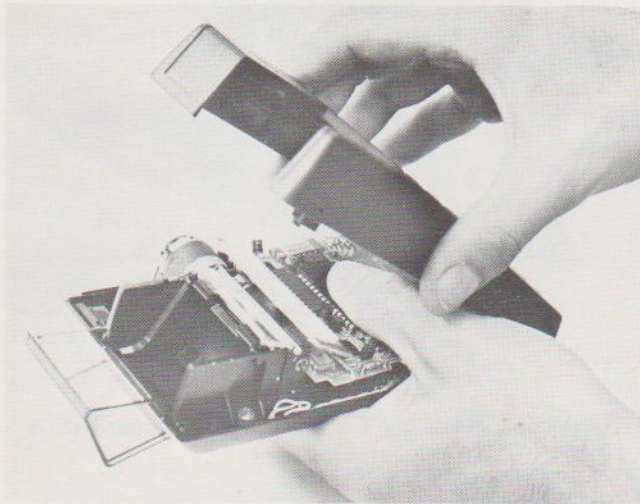

Figure 3-6. Securing Logic PCA to Printer PCA
- d. Engage the lip on the inside-bottom of the topcase, in the catch on the inside-bottom of the bottom case. With your thumb, press down on the PIK until the connector pins are secured in their mating holes. (See figure 3-6.)